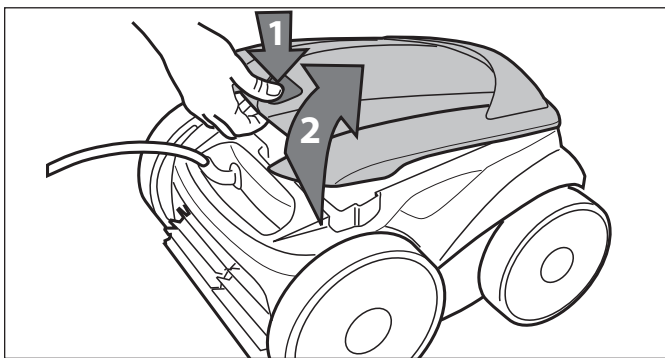

Figure 20. Lift Cleaner Cover
5. Push the cover lock (1) and lift the cover (2) until it is secured in the vertical position. (Figure 20).